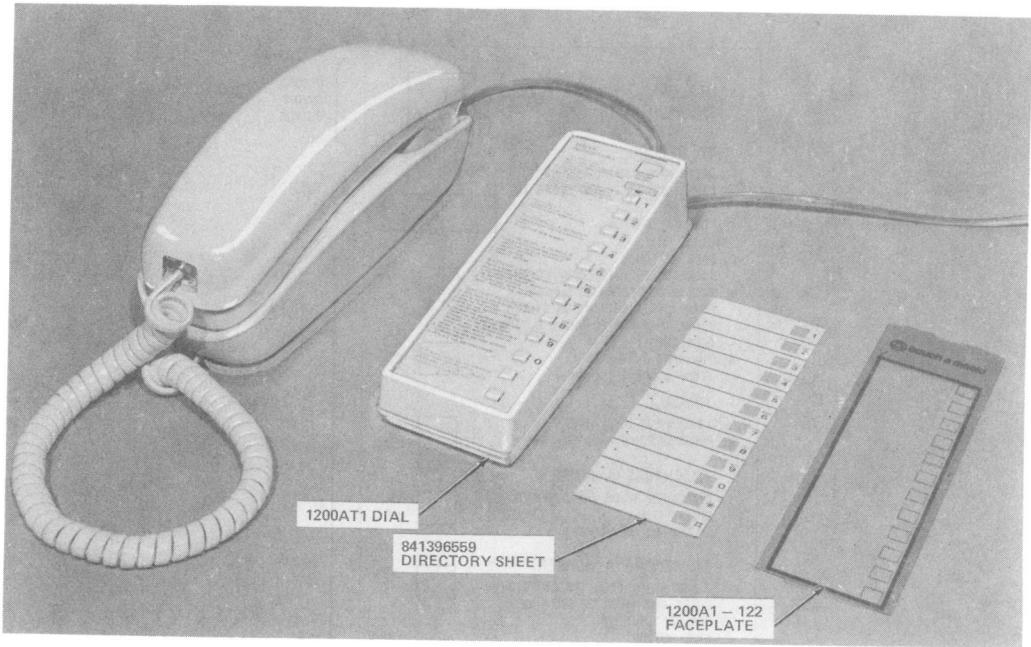

Fig. 6—1200AT1 Dial With Faceplate and Directory Sheet Removed
- (1) Remove the adjunct dial faceplate (Fig. 6), using fingernail in slot at top.
- (2) Remove the directory sheet and write or type the desired name(s) and telephone number(s). Replace the directory sheet on the dial.